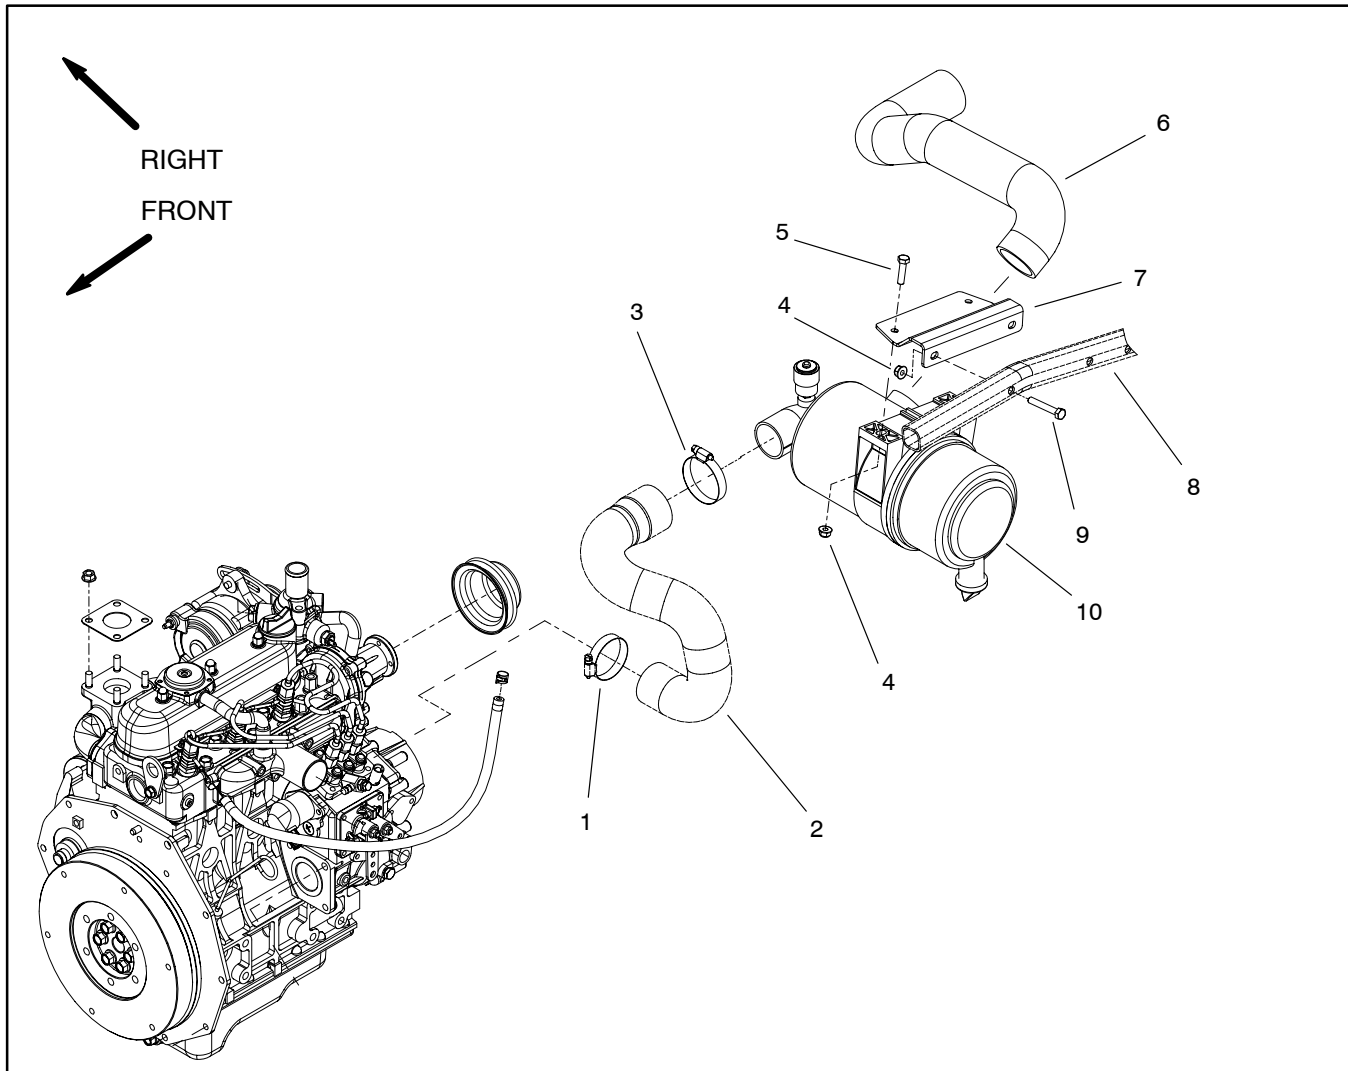

Figure 3
Removal (Fig. 3)
3. Remove air cleaner components as needed using Figures 3 and 4 as guides.
Installation (Fig. 3)
1. Assemble air cleaner system using Figures 3 and 4 as guides.